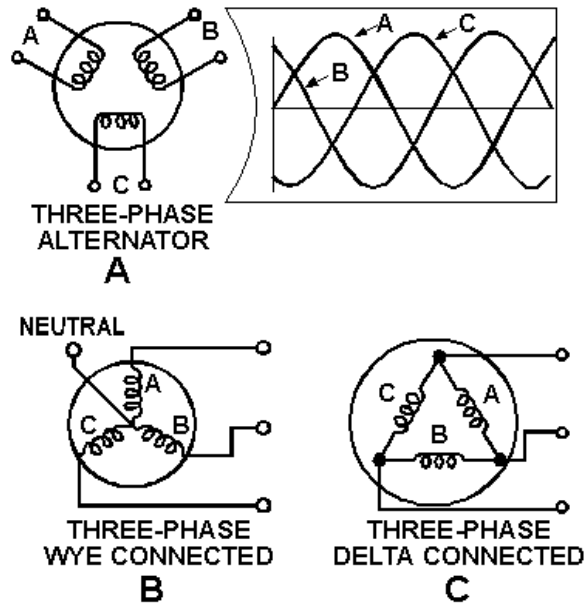

Figure 3-8.—Three-phase alternator connections.
The three-phase alternator, as the name implies, has three single-phase windings spaced such that the voltage induced in any one phase is displaced by 120° from the other two. A schematic diagram of a three-phase stator showing all the coils becomes complex, and it is difficult to see what is actually happening. The simplified schematic of figure 3-8, view A, shows all the windings of each phase lumped together as one winding. The rotor is omitted for simplicity. The voltage waveforms generated across each phase are drawn on a graph, phase-displaced 120° from each other. The three-phase alternator as shown in this schematic is made up of three single-phase alternators whose generated voltages are out of phase by 120° . The three phases are independent of each other.
Rather than having six leads coming out of the three-phase alternator, the same leads from each phase may be connected together to form a wye (Y) connection, as shown in figure 3-8, view B. It is called a wye connection because, without the neutral, the windings appear as the letter Y, in this case sideways or upside down.
A three-phase stator can also be connected so that the phases are connected end-to-end; it is now delta connected (fig. 3-8, view C). (Delta because it looks like the Greek letter delta, Δ.) In the delta connection, line voltages are equal to phase voltages, but each line current is equal to 1.73 times the phase current. Both the wye and the delta connections are used in alternators.